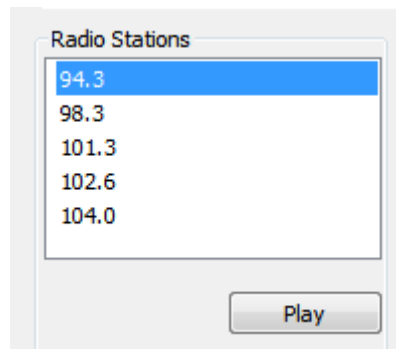

Figure 3.22: KES Demonstrator: Play Radio Station
11. Pressing the **Play** button on the KES Demonstrator configures the selected radio station as the current radio station, see Figure 3.22.